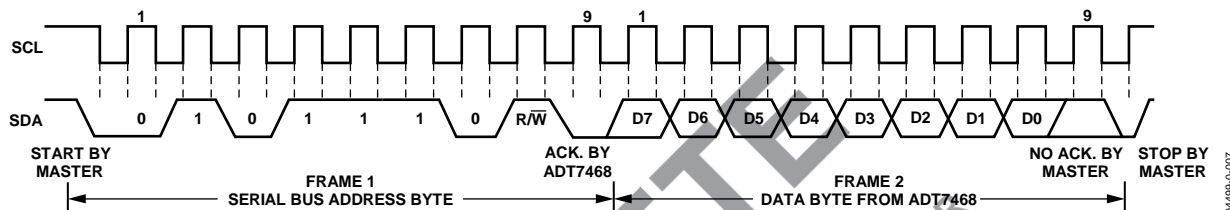

Figure 18. Reading Data from a Previously Selected Register
A read operation is then performed consisting of the serial bus address, R/W, bit set to 1, followed by the data byte read from the data register. This is shown in Figure 18.
- If the address pointer register is known to be at the desired address, data can be read from the corresponding data register without first writing to the address pointer register, as shown in Figure 18